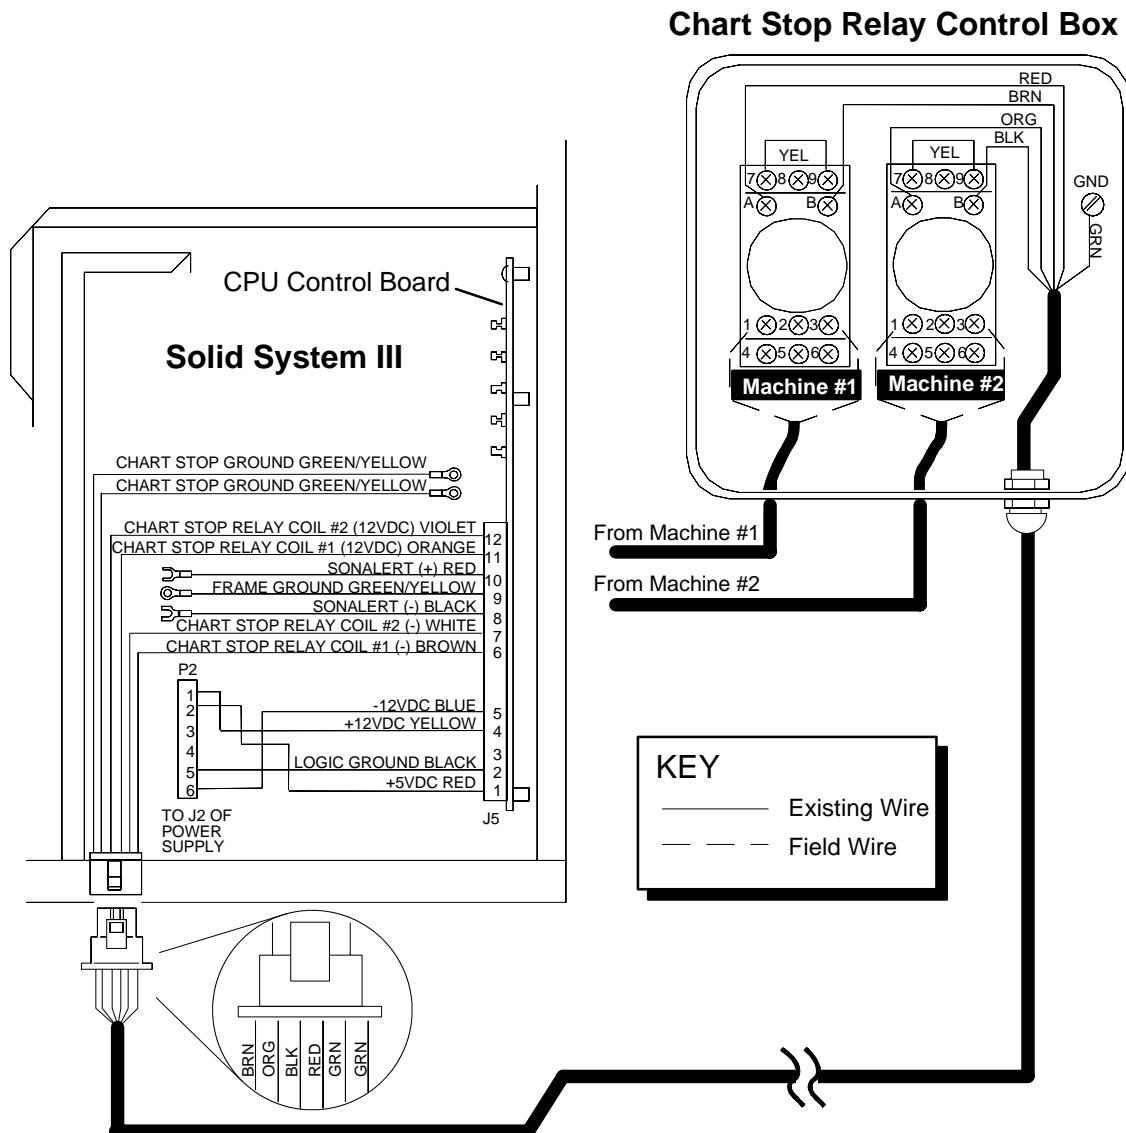

Figure 2-6
6. On the CPU card, locate the J5 connector (J5 is located at the lower left-hand corner of the large card). *Refer to Figure 2-6 on page 2-16.*